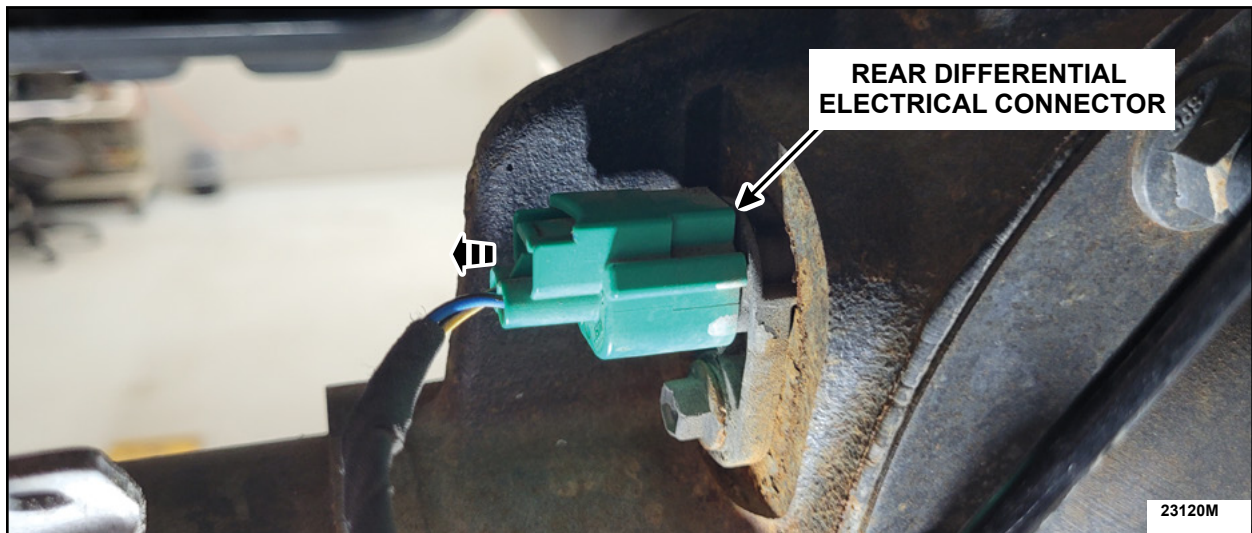

FIGURE 2
2. Disconnect the rear differential electrical connector. See Figure 2.